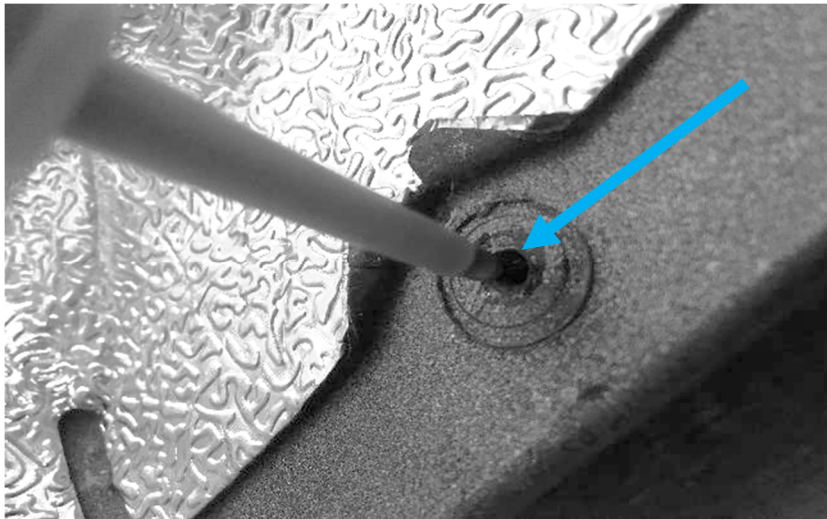

FIG. 10
- Drip high-strength screw thread locker (Loctite™ 2701) into the hole on the tank bottom (blue arrow, Fig. 10).